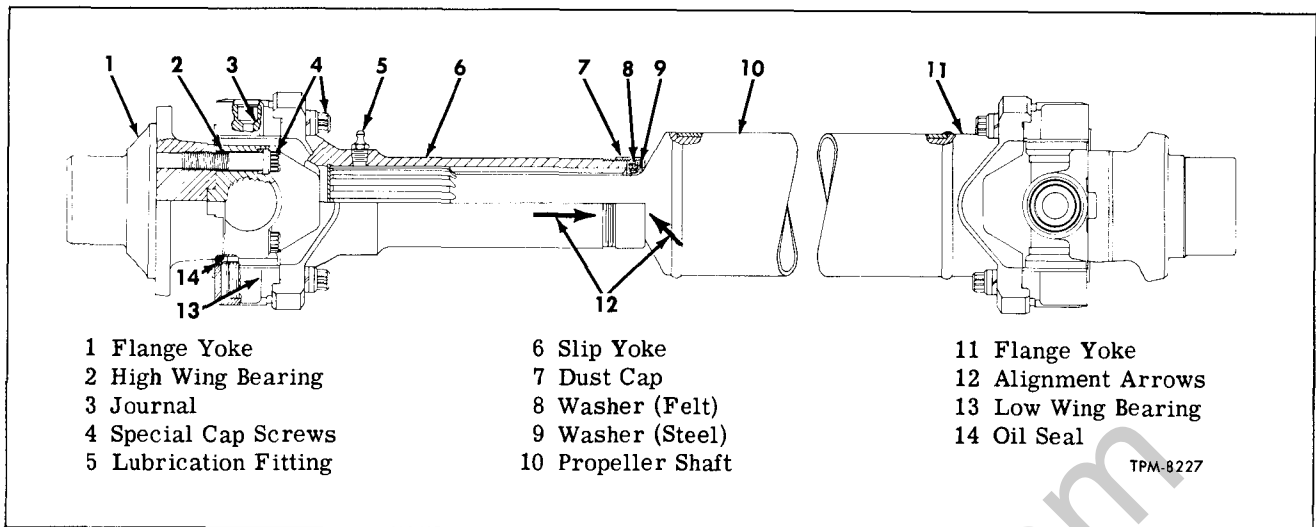
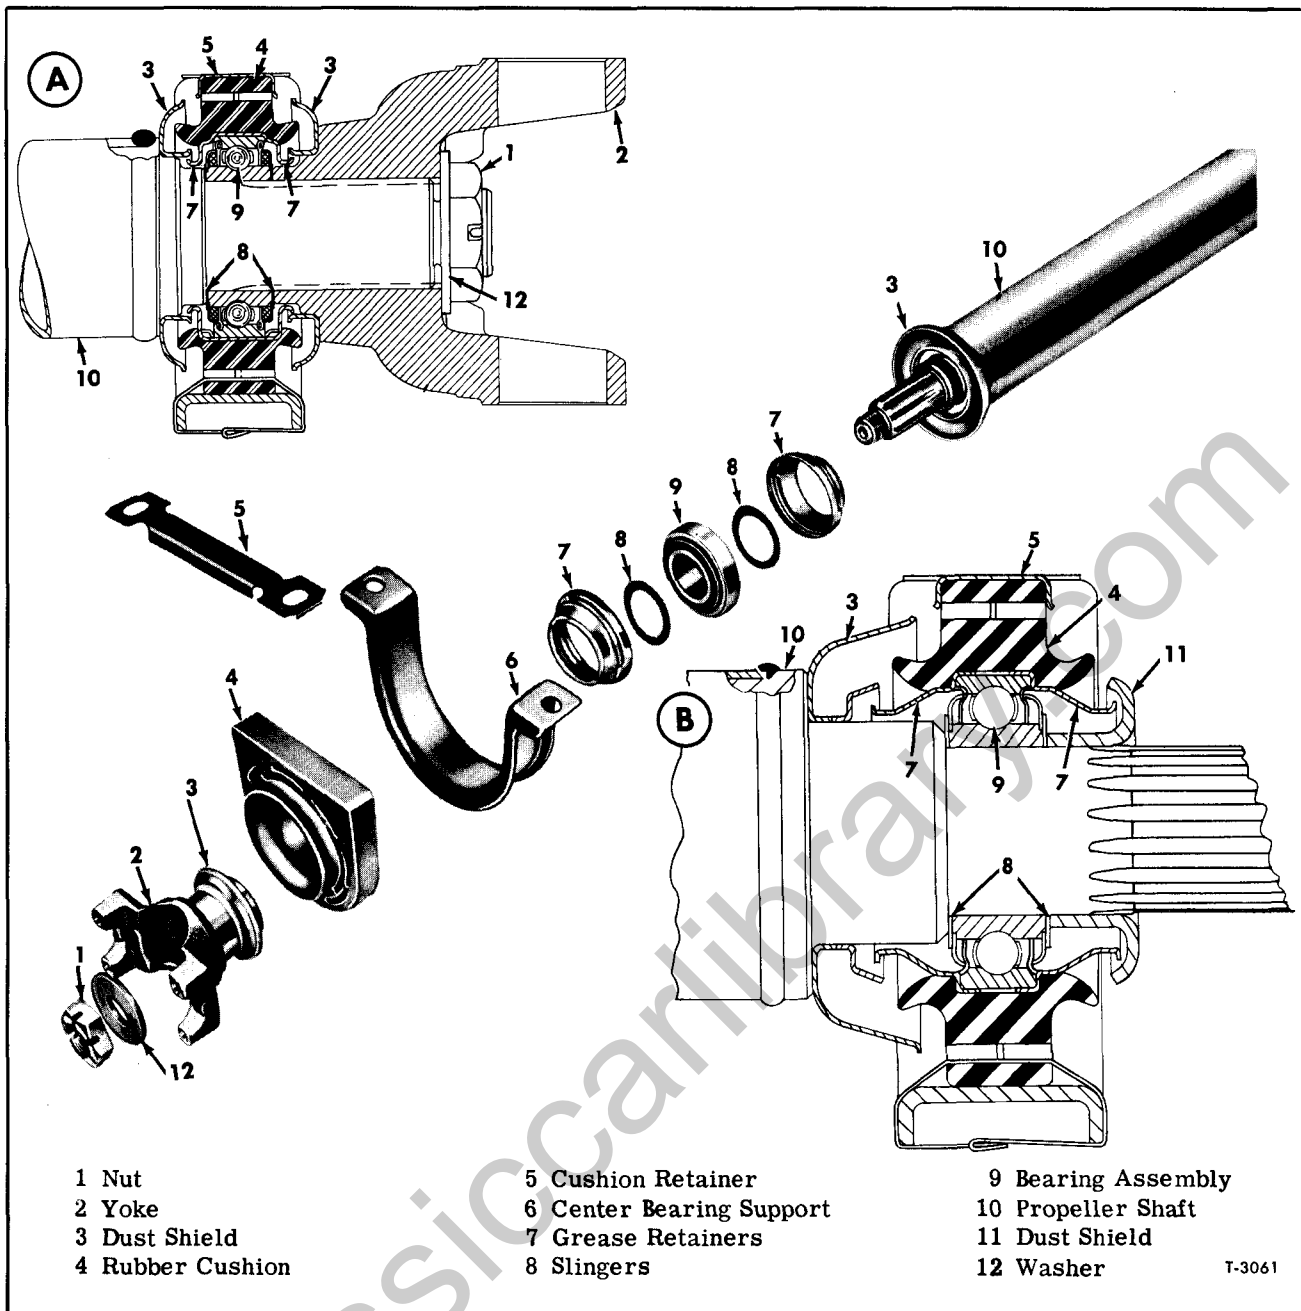

Figure 3—Typical Propeller Shaft with 58WB and 68WB Universal Joints
Figure 6—Typical Propeller Shaft Center Bearings
transmission end of shaft; if two or more shafts are used, slip joint is at forward end of rear shaft. End of slip yoke is sealed by a felt or cork washer, held in place by a steel washer and a dust cap which threads onto end of yoke. Fixed yoke may be either welded to propeller shaft tube as shown in figures 3 and 4, or it may be splined to a stub shaft and secured with a nut and cotter pin as shown in View A, figure 6. Alignment arrows on slip yoke and shaft provide for alignment of yokes at assembly.
CENTER BEARING (Fig. 6)
Center bearings are used to support center portion of drive line when two or more propeller shafts are used. Bearing is ball type, mounted in a rubber cushion which is attached to frame crossmember by the center bearing support. The two center bearings shown in cross section in figure 6 are of the same construction except for shape and location of dust slingers. View B illus-
With propeller shaft removed, look for arrow marks on propeller shaft and slip yoke as shown in figures 3 and 4. If both marks are not clearly discernible, punch mark both members to insure assembly in exactly same relative position. When clearly marked, unscrew dust cap and withdraw shaft. Remove cork or felt washer, steel washer, and dust cap from shaft.
The following procedure covers disassembly of center bearing with propeller shaft removed from vehicle. Key numbers in text refer to figure 6.
1. Remove retainer (5) from support (6), then remove support from cushion (4).
2. On type shown in View A, figure 6, remove cotter pin and nut securing yoke (2) on shaft, then pull yoke off shaft. On type shown in View B, remove dust shield (11) from shaft.
3. Remove rubber cushion (4) from bearing (9), then pull bearing assembly from shaft.
4. Remove grease retainers (7) from bearing, and remove slingers (8).
Key numbers in text refer to figure 6.
1. If removed, install new dust shields (3) on shaft or yoke. Tack weld or stake shields in place.
2. Press a grease retainer (7) over each side of bearing outer race. Pack cavities in retainers with waterproof grease recommended in LUBRICATION (SEC. 0).
3. Install one slinger (8) over end of shaft. Start bearing and retainer assembly straight on shaft, then using a suitable sleeve to exert force on bearing inner race, press bearing and slinger against shoulder on shaft. Install the other slinger (8) over shaft and position against bearing.
4. Install rubber cushion (4) over bearing making sure bearing is centered in hole in cushion.
5. Position support (6) around cushion and install cushion retainer (5).
6. On type shown in View B, figure 6, press dust shield (11) onto shaft against slinger (8). On type shown in View A, install yoke (2) on shaft.